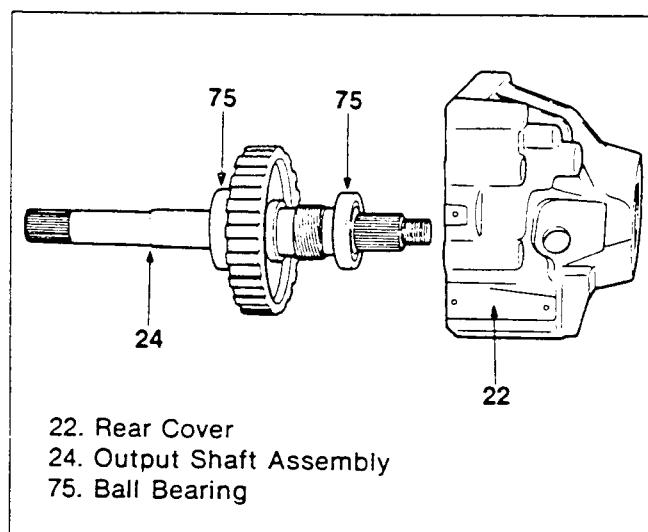

**Figure 40. Rear cover and Output Shaft Assembly Removal (1)**
5. Remove the rear cover and the output shaft as a unit (figure 40).